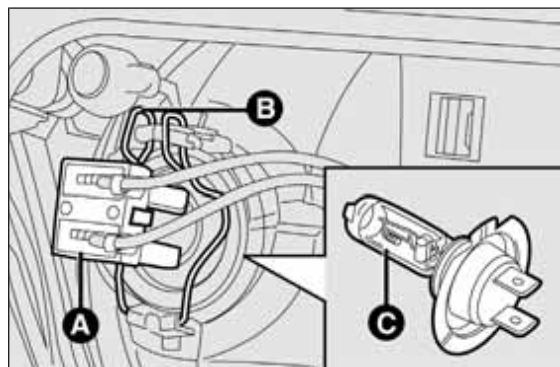

fig. 193
- ☐ disconnect the electrical connector A fig. 193;